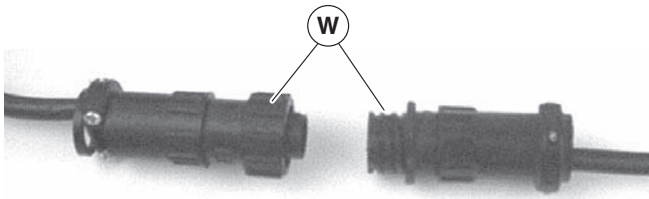

Figure 19
2. For DC variable speed motor, unplug motor cord at disconnect (Figure 19, item W).